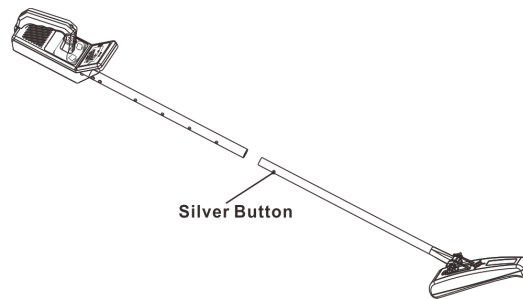

Fig3
- 2) Press the silver button on the lower stem and insert it to the upper stem (See Fig.3).